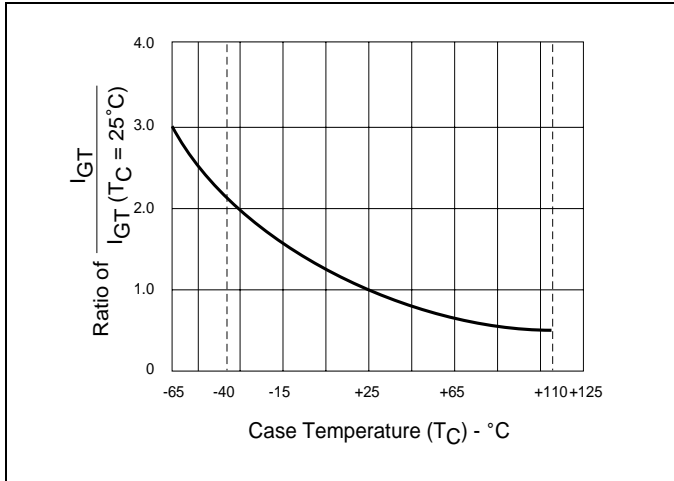

Figure 1.7 Normalized DC Gate Trigger Current for All Quadrants vs Case Temperature
- See Figure 1.7 for  $I_{GT}$  vs  $T_C$ .